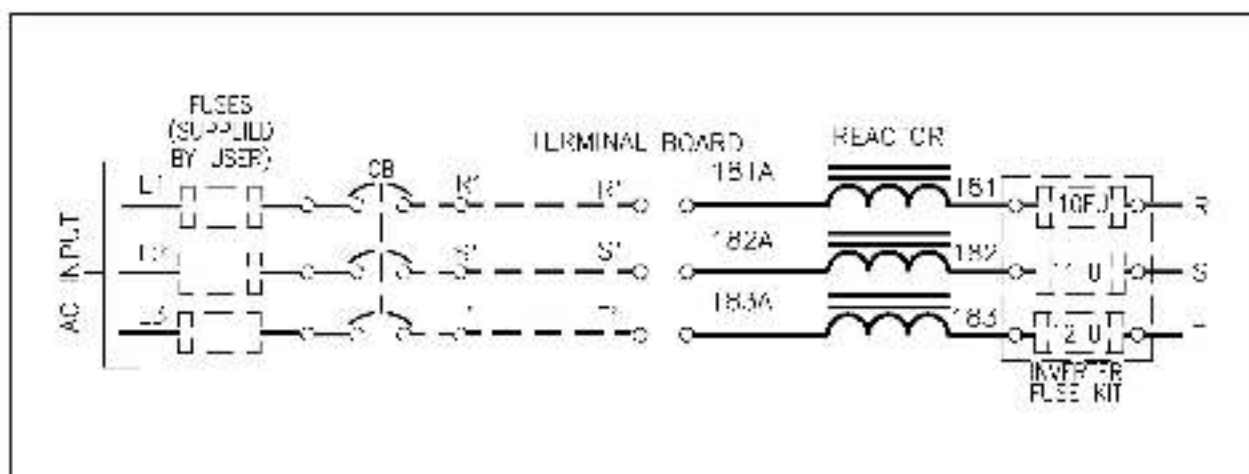

Figure 2. Inverter Fuse Kit Connection Diagram.
7. Disconnect power input lines 181, 182, and 183 from terminals R, S and T. (See Figure 2).